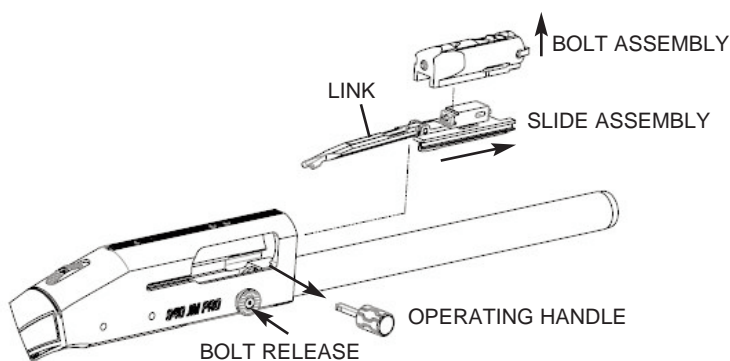

Figure 13
1. Pull the operating handle straight out of the bolt (Figure 13).
Using a solvent, clean all components of the action including the bolt, slide, and link (Figure 13) to remove accumulated residue. Action parts will remain cleaner, longer, if lubrication is used sparingly.